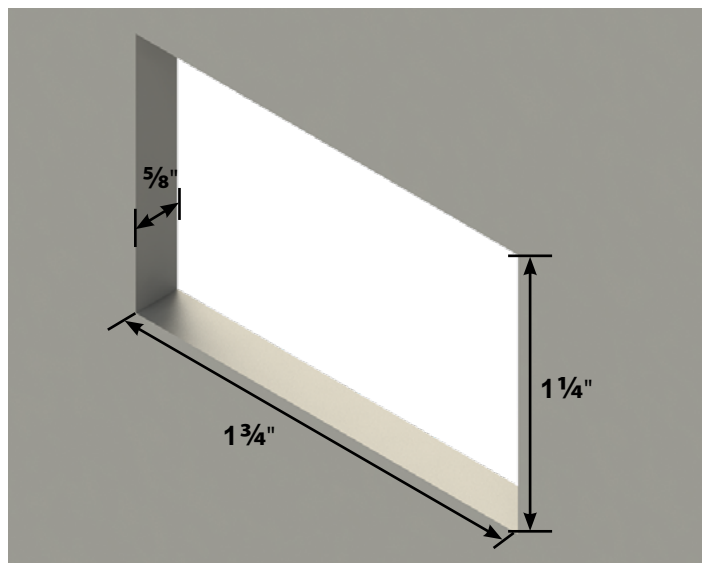

Fig.24
2. Cut a hole in the desired location 1 3/4" wide by 1 1/4" high and have a depth of 5/8" (**Fig.24**) so the top and bottom horizontal cuts are parallel to floor of the compartment or floor of the unit.